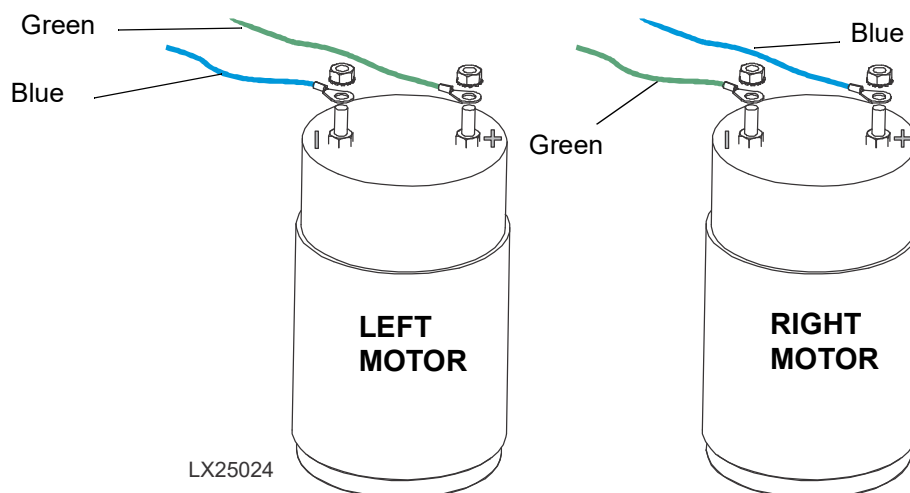

FIG. 3-18
- d. Place the wire ring terminals over the motor studs as shown in Fig. 3-18.
See Figure 3-18.